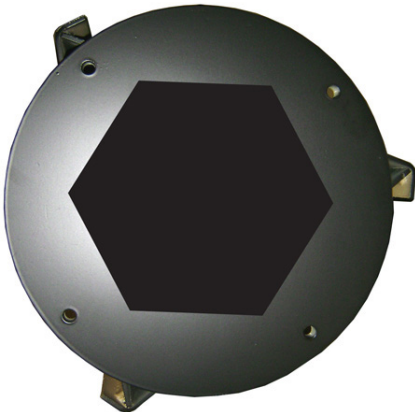

Figure 10
2. Note the location of the drive pin on the inside ring of each brush wafer. Position each wafer so its drive pin is positioned between the stop flanges. Rotate each subsequent wafer before installing so the position of its pin is staggered on the core by one stop flange. See Figure 10.